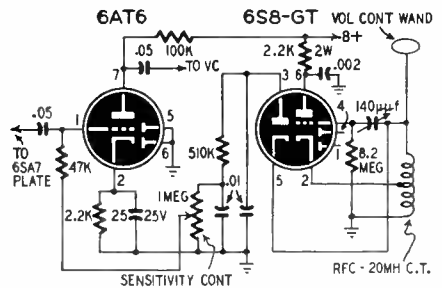

Fig. 2—Hand-operated volume control.
**A.** Fig. 2 shows how a capacitance-operated volume control can be added to your Theremin.